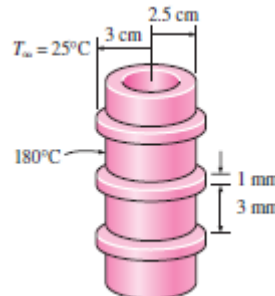

Figure Q4A
- 4A. Steam in a heating system flows through tubes as shown in Fig. Q4A, whose outer diameter is 5 cm and whose walls are maintained at a temperature of  $180^{\circ}\text{C}$ . Circular aluminum alloy 2024-T6 fins ( $k = 186 \text{ W/m} \cdot ^{\circ}\text{C}$ ) of outer diameter 6 cm and constant thickness 1 mm are attached to the tube. The space between the fins is 3 mm, and thus there are 250 fins per meter length of the tube. Heat is transferred to the surrounding air at  $T_{\infty} = 25^{\circ}\text{C}$ , with a heat transfer coefficient of  $40 \text{ W/m}^2 \cdot ^{\circ}\text{C}$  and efficiency of the fin is 95 %. Determine the increase in heat transfer from the tube per meter of its length as a result of adding fins and overall effectiveness of finned tube. 05